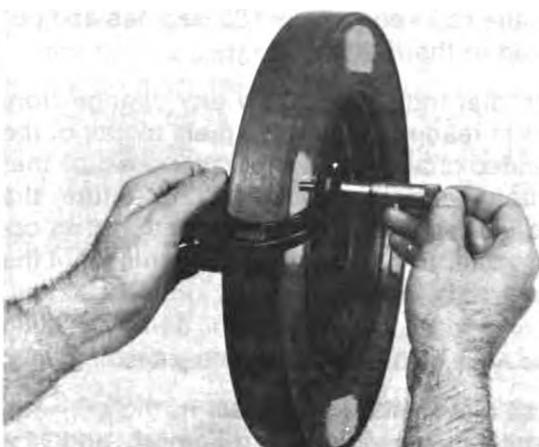

Fig. 1-56 (N101117). Measure The Thickness Of The Damper.
4. Use a micrometer to measure the thickness at each of the four areas. Measure approximately 0.125 inch [3.18 mm] from the outside diameter of the damper, Fig. 1-56.